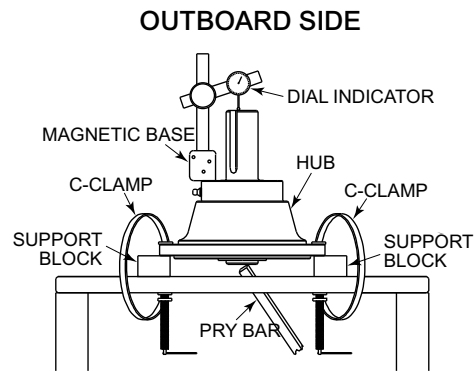

Figure 6.4.1 Setting Axial Bearing Clearance
1. Support housing to allow the shaft to rotate freely (reference **Figure 6.4.1**).
2. Affix the hub to the support table with C-Clamps or bolting to table (reference **Figure 6.4.1**).
- Affix the magnetic base of the dial indicator to a flat area of the housing (reference **Figure 6.4.1**).
- With a pry bar, push the inboard end of the shaft up (reference **Figure 6.4.1**).